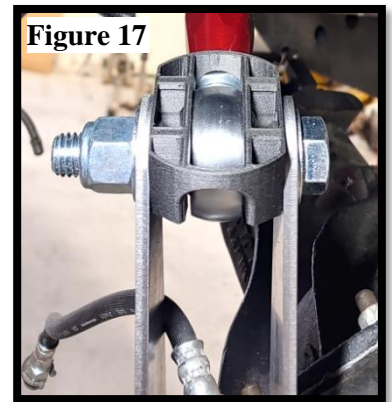

Figure 15
27. Raise the axle to your desired ride height ensuring that the axle is centered between the frame rails. **(Figure 15)** Measure the wheel base from the front wheels to ensure the axle is true.
28. Support the pinion and adjust the pinion angle to 1 degree down with an angle finder. **(Figure 15)** The pinion angle is in relation to the angle of the transmission output and not from earth level.
37. If during step 31 it was determined that the original cross-member for the factory shock mount was too close to your upper control arms, remove it by grinding the spot welds as shown in Figure 15.